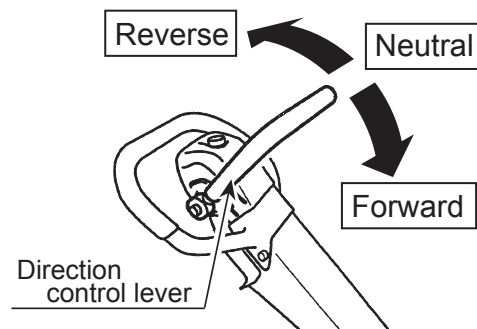

Figure 22. Direction Control Lever
3. The direction control lever allows the machine to be moved either backward or forward (Figure 22). When the direction control lever is pushed forward, the machine moves forward. When pulled backward, the machine moves backward.